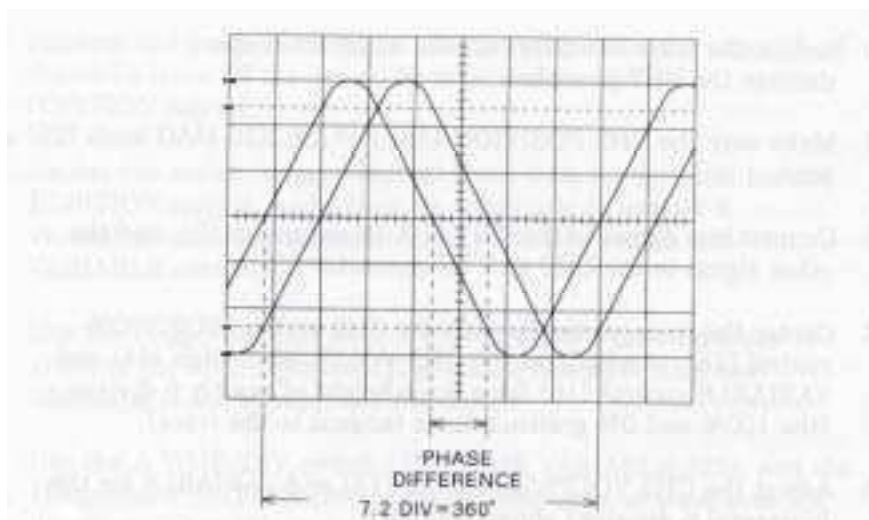

Fig. 2-10. DUAL-TRACE METHOD OF PHASE MEASUREMENT
4. Use the Trigger LEVEL control [31] to ensure that the trace crossing the central horizontal graticule line at or near the beginning of the sweep. See Fig 2-10.